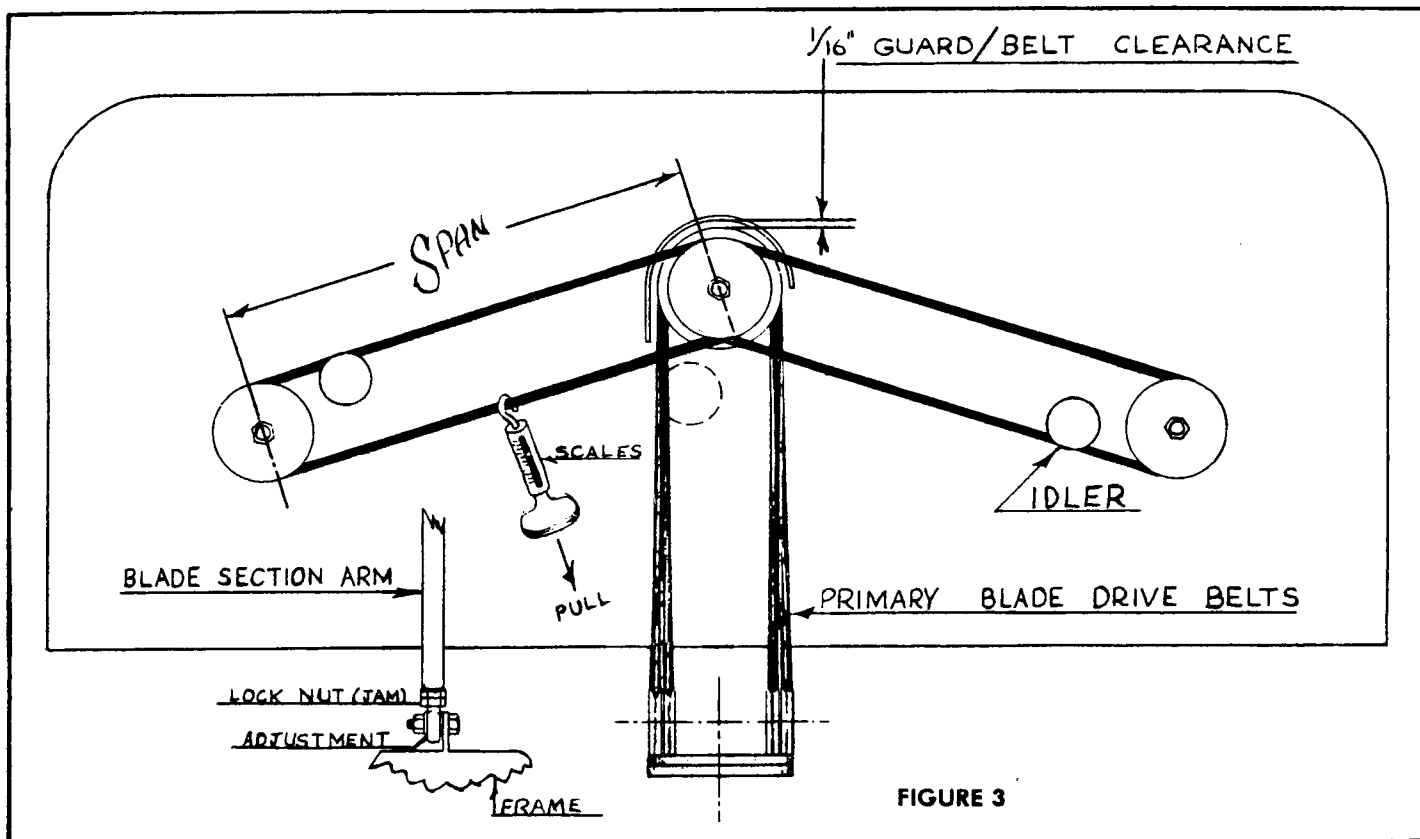

FIGURE 3
2. At the center of the span, apply a force with a spring scale (at right angles to the span as shown in Fig. 3) large enough to deflect the belt 1/64 inch per inch of span.
(c) The primary blade drive belts are adjusted by lengthening or shortening the cutting section connecting arms - See Fig. 3. This is achieved by removing the 5/8 inch bolt that holds the connecting arm end to the frame and screwing the rod end in or out. The blade engagement lever must be in the engaged position when checking belt tension. The primary blade drive
(d) The secondary wing blade drive belts are adjusted by first removing the hood. Loosen the bolts that secure the idlers and reposition the idlers for desired belt tension. See Fig. 3. Retighten bolts.
(b) **Belt Guards - See Fig. 3.**